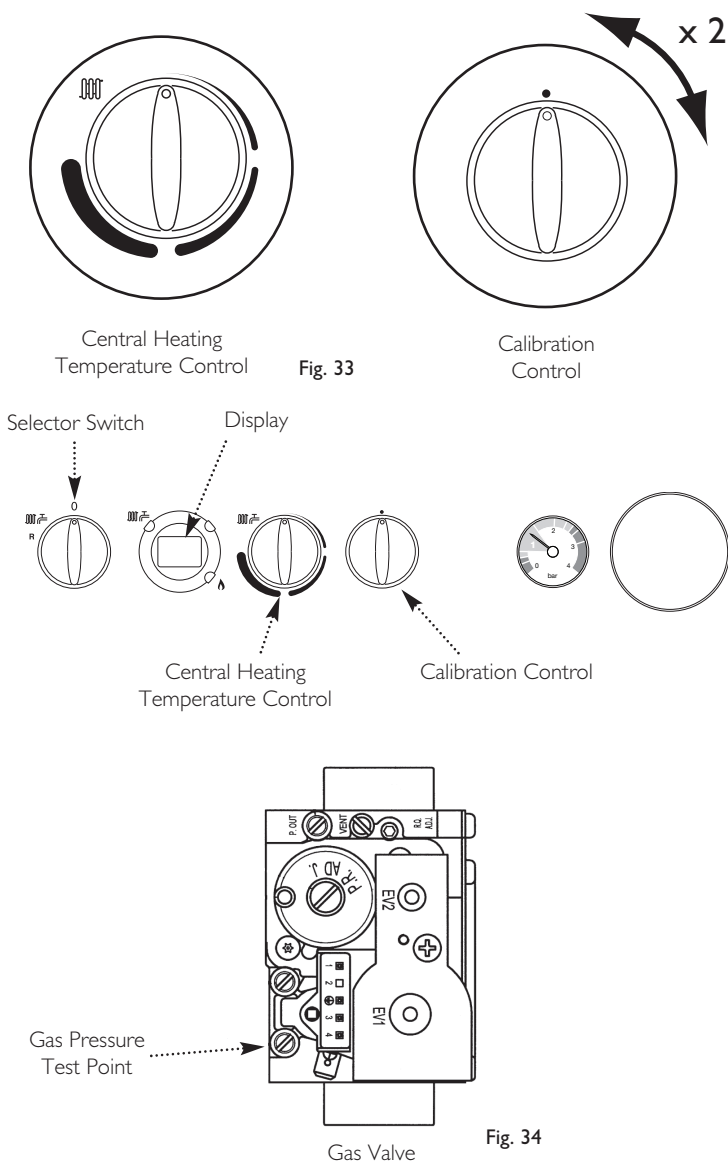

Fig. 33
3. Turn both temperature control knobs fully anticlockwise, then quickly turn the Calibration Control knob $\frac{1}{4}$ clockwise twice and back fully anticlockwise (Fig. 33).